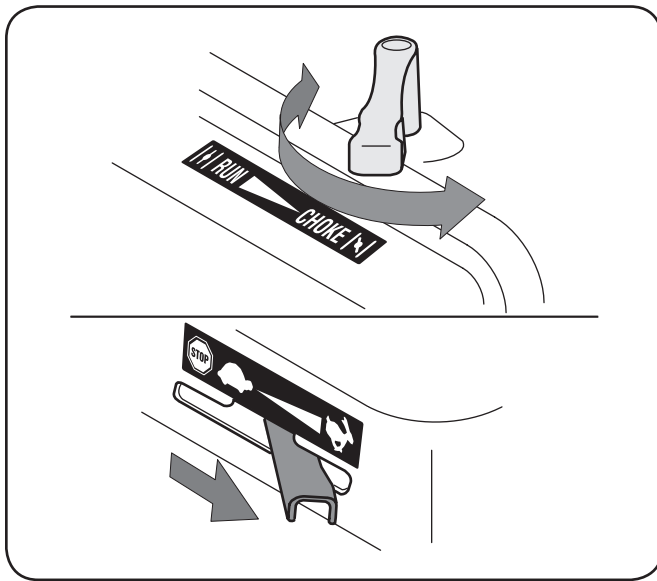

Figure 5-1
3. Move choke control lever to CHOKE position, if equipped. See Figure 5-1. If the unit has a primer, prime the motor as instructed in the engine operator's manual.
4. Move throttle control lever to FAST position (if equipped). See Figure 5-1.